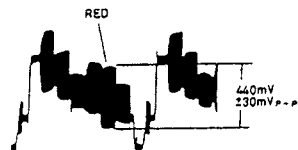

Fig. 4-44
(Figs. 4-44 - 4-50)
- When using an oscilloscope (Fig. 4-44)
- 3) Press the **[U]** and **[D]** keys to set the red level to  $440\text{mV} \pm 30\text{mV}$ . (Fig. 4-44)